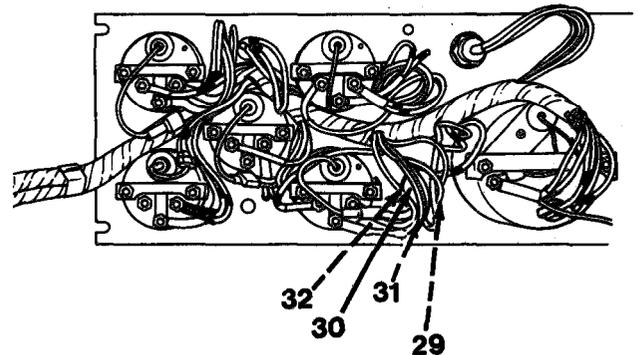

Figure 17-4
11. Removal of horn button: Tag and disconnect wires (29) from back of horn button (30). Loosen nut (31) on back of horn button (30) and unscrew rubber cover (32, Figure 17-4). Push out through rear of dash panel.